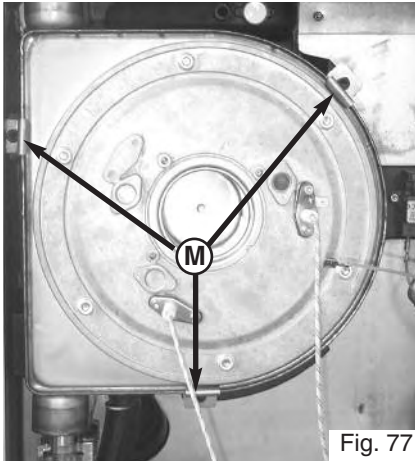

Fig. 77
4. Unscrew the three bolts **M** from the main heat exchanger (Fig. 77);